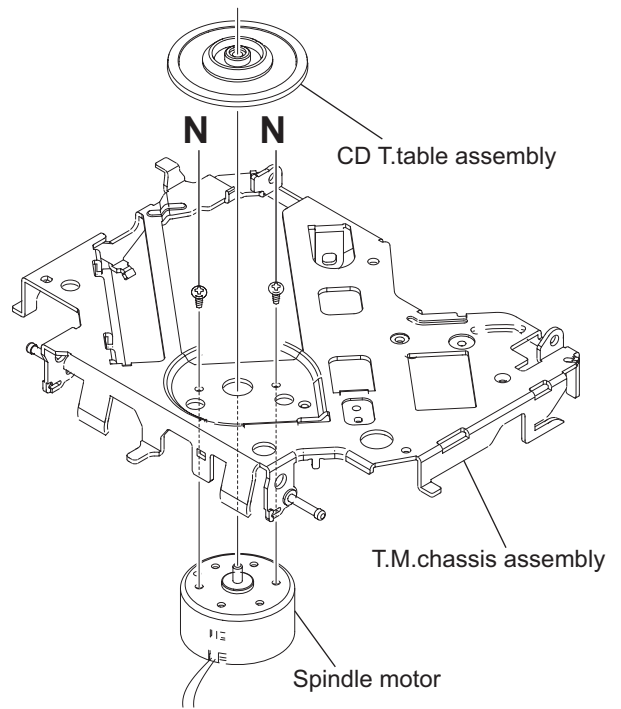

Fig.23
### 3.2.14 Removing the spindle motor (See Fig.23 and 24)
- From the top side of the T.M chassis assembly, remove the CD T.table assembly from the spindle motor. (See Fig.23.)
- Remove the two screws **N** attaching the spindle motor. (See Fig.23.)
- Take out the spindle motor from the bottom side of the T.M chassis assembly. (See Fig.23.)